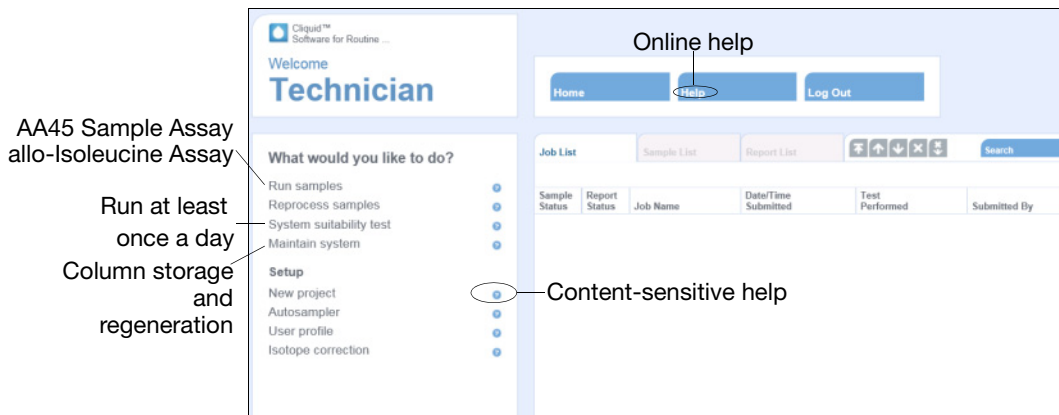

Figure 4 Features of the Home page for a Lab Technician
5. Enter your log in information, then click **Get Started**. For a Lab Technician, the Home page in Figure 4 opens. (The Home page for a Lab Manager displays additional tasks.)
6. In the Home page (Figure 4), select **System suitability test**.
1. In the Cliquid Software Home page (Figure 4 on page 28), click **New project**. The New Project screen opens.
1. In the Cliquid Software Home page (Figure 4 on page 28), select **Run samples**.